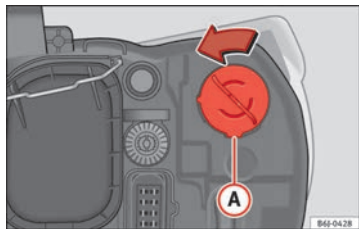

Fig. 168 Turn signal light.
- Turn bulb holder ⇒ Fig. 168 -- to the left and pull.